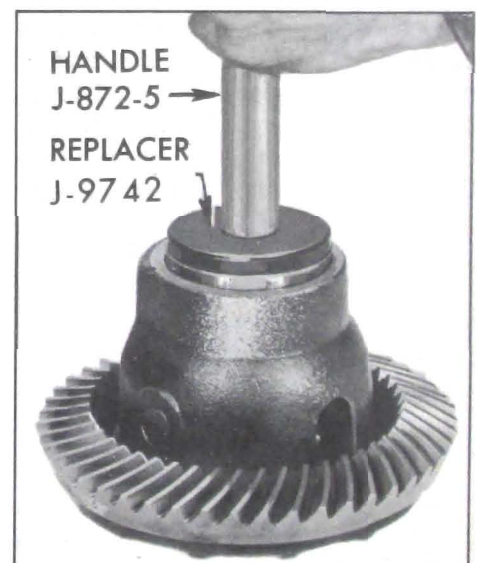

Figure 6-32—Installing Differential Bearing Outer Race
1. Drive differential bearing outer races into case, using Replacer J-9742. See Figure 6-32.